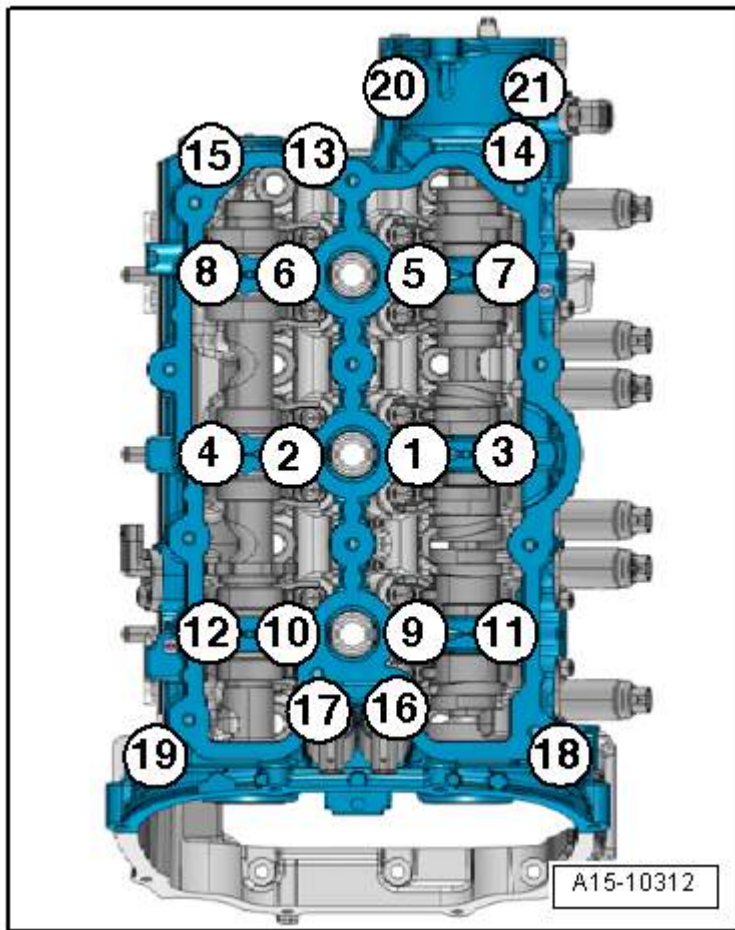

Fig. 20: Identifying Guide Frame Bolt, Tightening Sequence
- Tightening specification and sequence, refer to **Fig. 20**